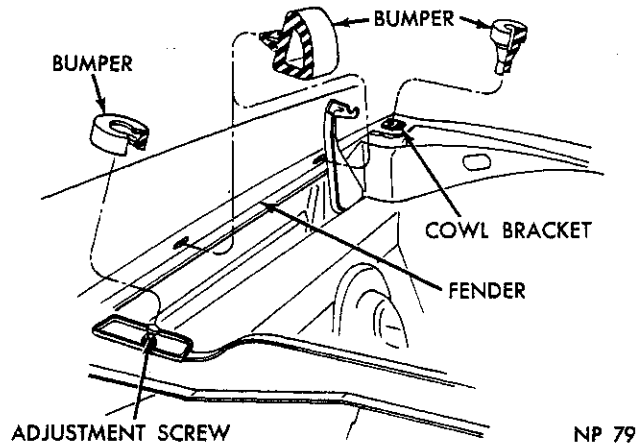

Fig. 3—Hood Leveling Adjustment
- (1) With an assistant, position hood on hinges and install bolts. Do not tighten.
- (2) Align scribe markings on hood with hinge and tighten screws to hold in position.
- (3) Close hood and inspect alignment.
- (4) Adjust alignment (Figs. 3 and 4) tighten bolts 180-inch-pounds and remove protective coverings.